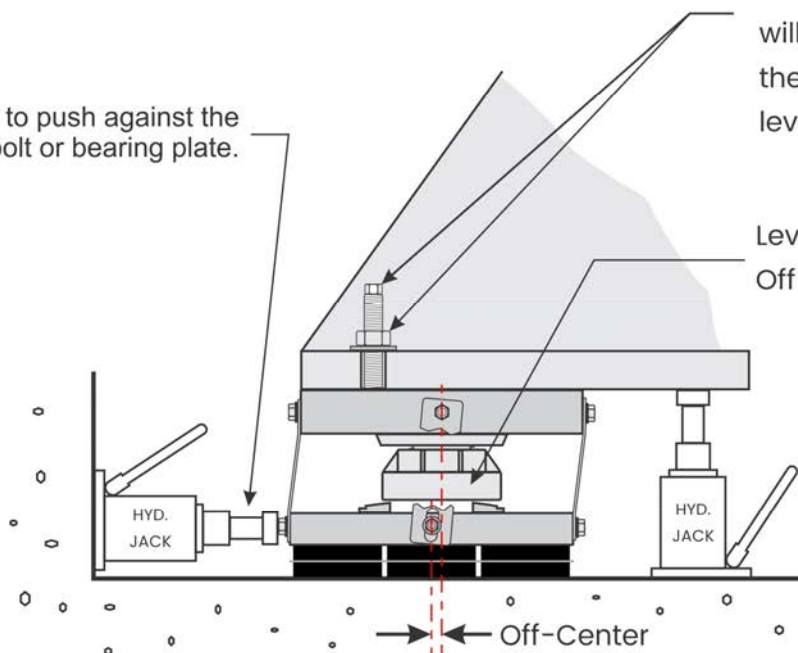

FIGURE 3
9. If the elastomer and bearing plate subassembly require centering, then the elastomer and bearing plate subassembly can be repositioned on the concrete surface using a hydraulic jack. See Figure 3.